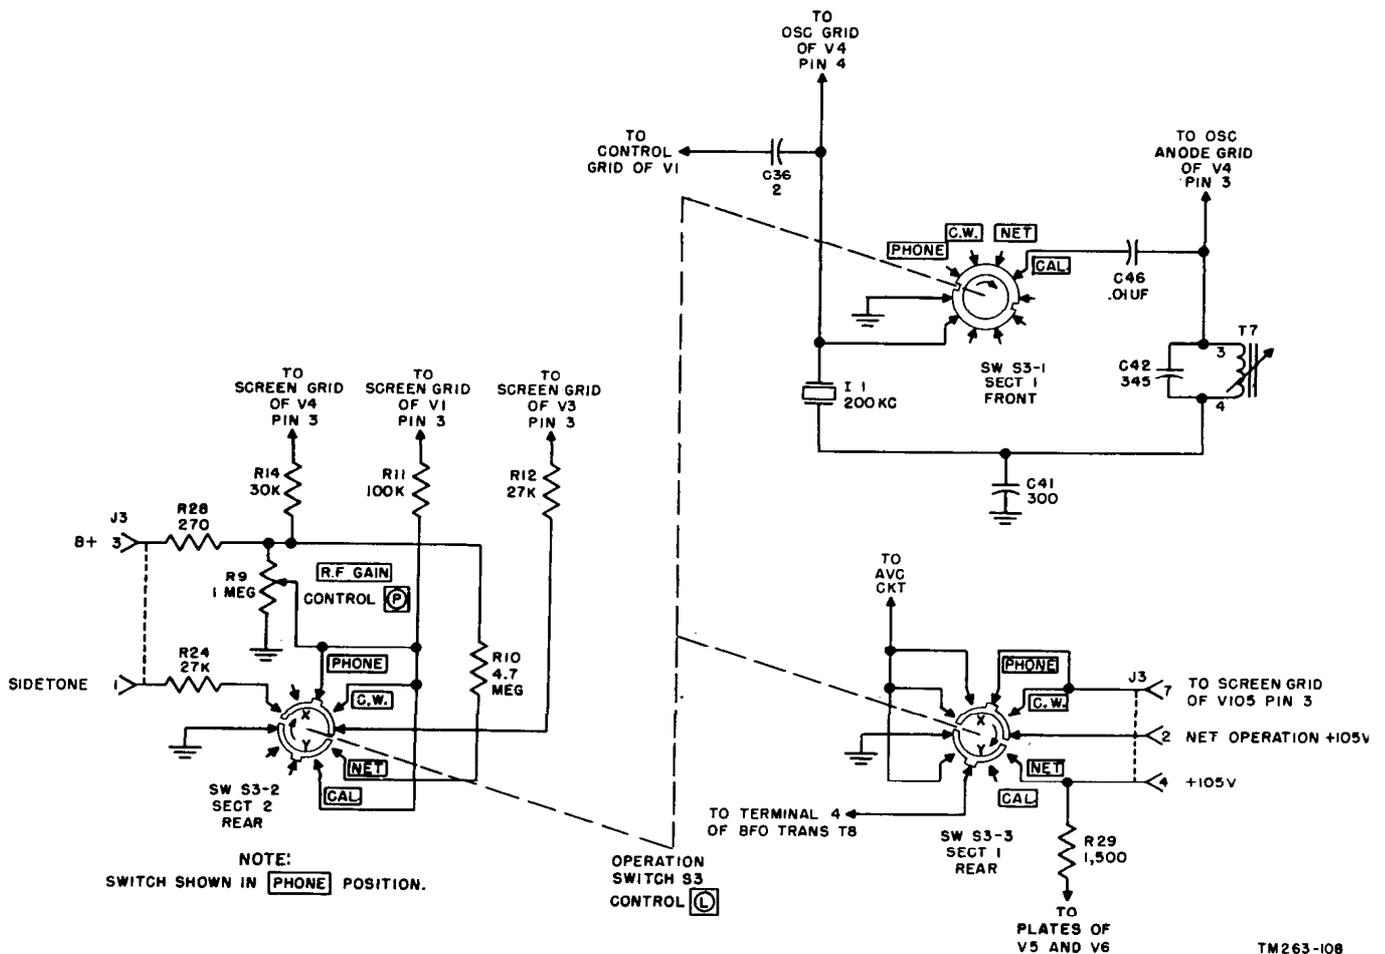

Figure 65. Operation switch S3, simplified schematic diagram.
a. Two if. amplifier stages are used: the first stage, V3, uses tube type 1L4, and the second stage, V4, uses tube type 1R5. The primaries and secondaries of if. transformers T4, T5, and T6 are shunted by capacitors C31 and C32, C37 and C38, and C44 and C45, respectively. These capacitors, combined with adjustable powdered iron cores inserted in the primary and secondary coils, tune the transformers to 456 kc. The 456-kc signal from the plate of V2 is applied to the primary of T4, appears in the secondary by induction, and is applied to the control grid, pin 6, of V3. Capacitor C35 acts as an rf bypass for the screen grid of V3. Capacitor C35 acts as an rf bypass for the screen grid of V3. Capacitor C46 is the screen grid bypass for V4 in all positions except the CAL. position of operation switch S3 (par. 95). Resistor R14 is the screen-dropping resistor for V4. The avc voltage supplies bias to V3 through the secondary of T4. Capacitor C33 is used as a filter capacitor for the avc as well as completing the rf path from the low side of the secondary of T4 to ground. Capacitor C40 is a bypass capacitor for the B+ supply line. The gain of V3 is controlled manually by potentiometer R9, R.F. GAIN, control Ⓟ, which varies the voltage supplied to the screen grid. During net operation only, the gain control is removed from the circuit and R10, a large fixed resistor (fig. 65) is substituted in its place. Refer to paragraph 95 for the description of this switching circuit.
95. Operation Switch S3 (fig. 65)